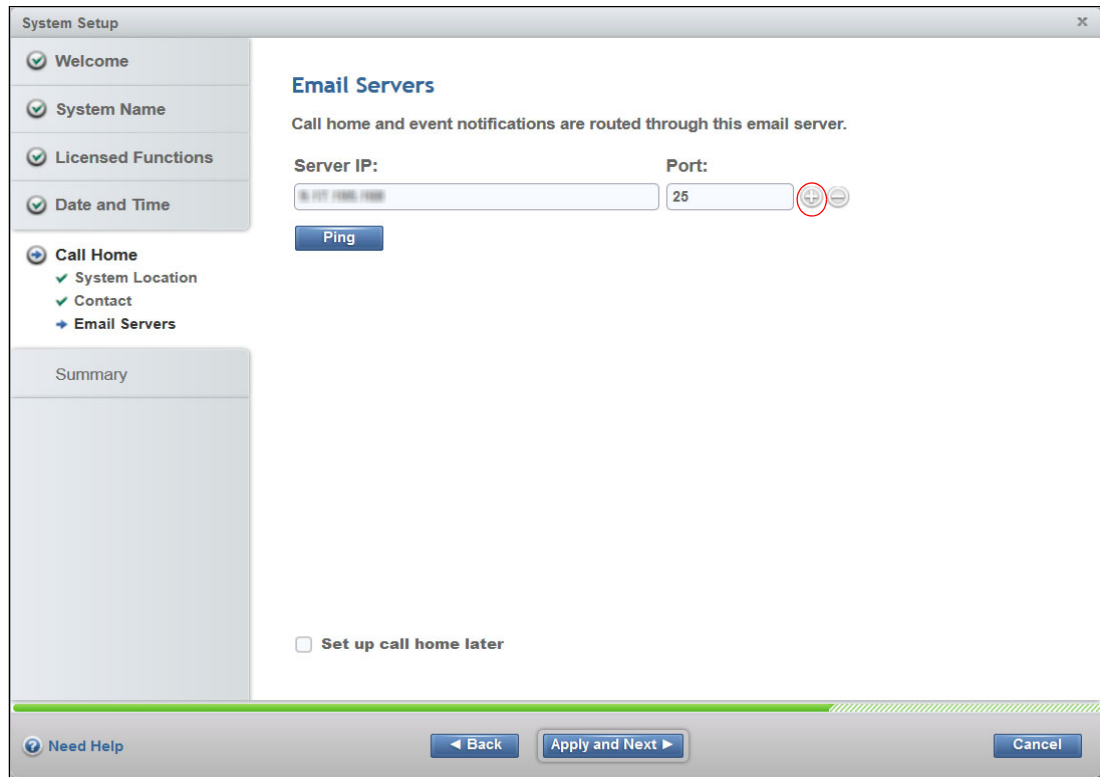

Figure 6-18 Email Servers (SMTP IP address)
3. Validate or enter the information about the Email Servers, SMTP server IP address (Figure 6-18). You can add more than one server by clicking the plus sign (+) button.